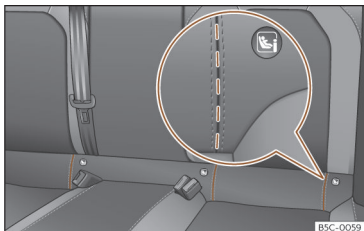

Fig. 27 Rear seat: die cut slots to access the ISOFIX / i-Size securing rings.
rear seat backrest and the seat cushioning »» **Fig. 27**. The Top Tether rings are located on the rear part of the rear seat backrests (behind the backrest or in the luggage compartment)»» page 38 .
- Open the cut-out section behind the marked grooves to access the retaining rings >>> Fig. 27.